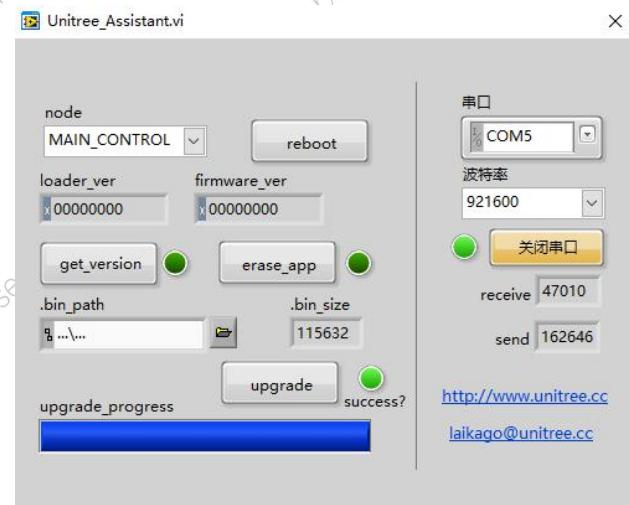

Figure 6 Interface after successful node upgrade
3. Select the node to be upgraded in the "node" drop-down menu, as shown in Figure 5, then load the .bin file to be upgraded, and finally click the "upgrade" button. The upgrade success "success" light will light up, the interface is shown in Figure 6.